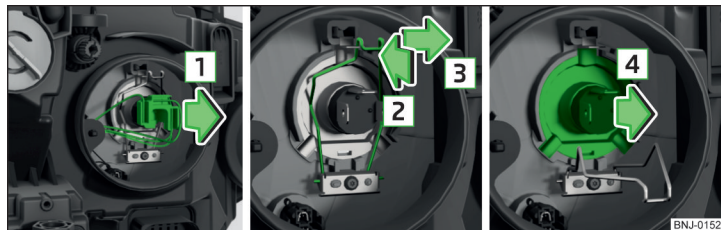

Fig. 185 Replacing the bulb for low beam and main beam
- Press the connector latch and remove the plug connector by jiggling in the direction of arrow **1** » Fig. 185.